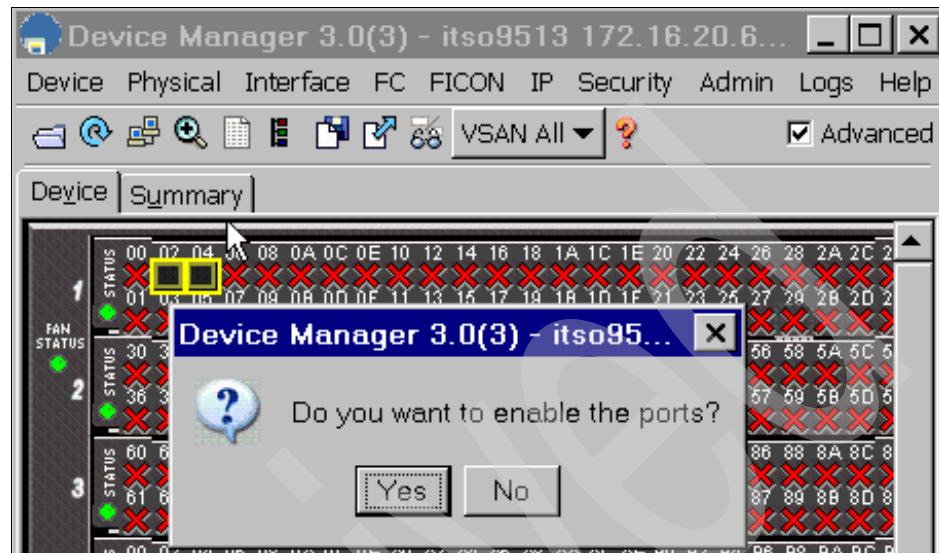

Figure 85 Port swap enable ports message
- When prompted to enable the ports (Figure 85), we selected **Yes** because we have already moved the required cables.